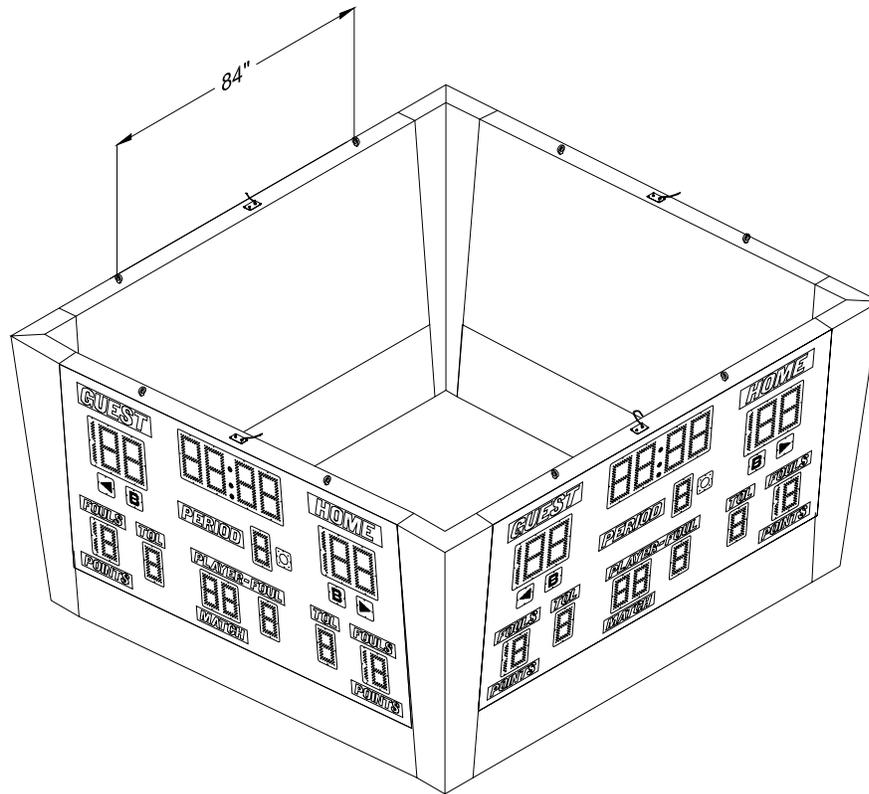

Figure 1 2665-4 Eyebolt Spacing
11. Connect your chains or cables to the eyebolts of the assembled scoreboard. Figure 1 shows the distance between the eyebolts.